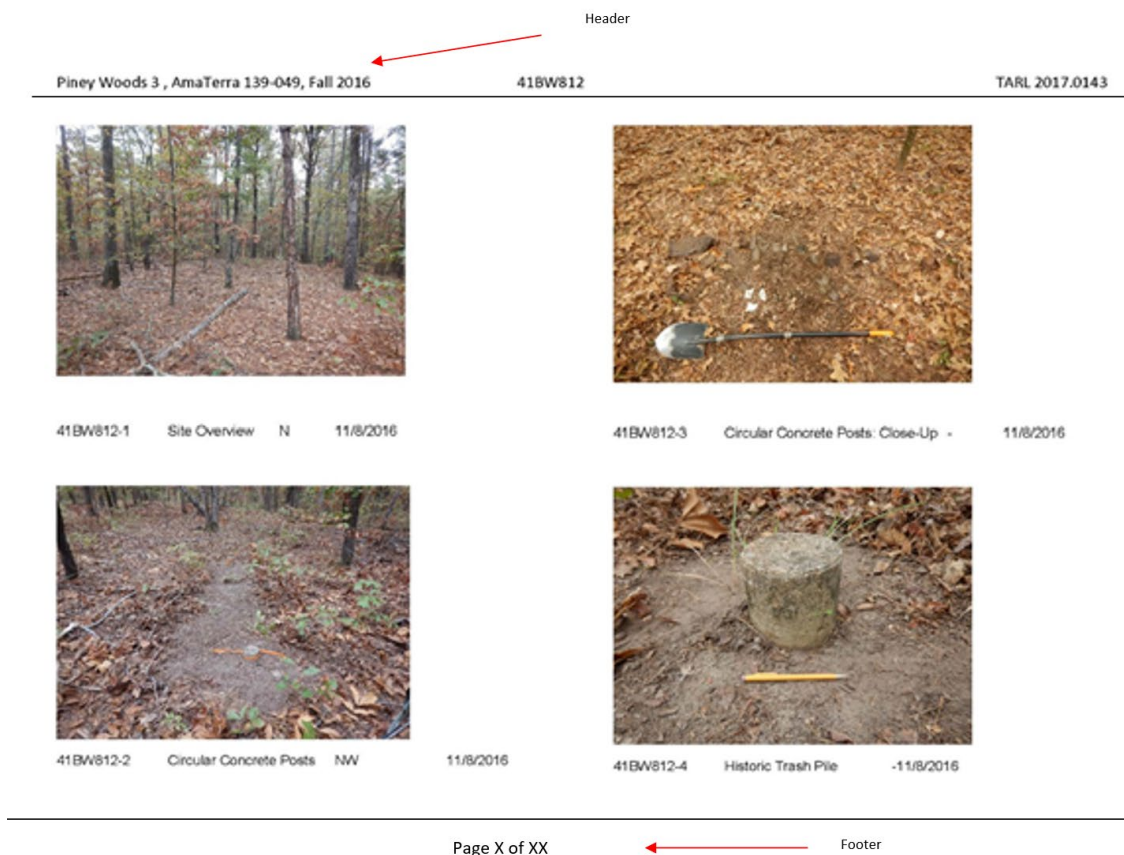

Figure 4. Example of photologs and merged photos
- 3) Photos should be no smaller than 3.5x4.67 inches in size and should be printed at no lower than 600 dpi resolution. Two (portrait) or four (landscape) photos may be printed on one 8.5x11 inch acid-free photographic page. This hard copy is our backup if the digital files are corrupted. Do not submit thumbnail size pictures as the only hard copy version of the prints. Thumbnails may be submitted as additional information and should be labeled with the site and unique print number information. Unlabeled thumbnails will not be accepted. There are no stipulations on how you produce this image file if it can be opened in commonly available program such as Microsoft Word or Adobe Acrobat. Using the header function in Word allows you to place the company/agency, project number and/or name, county and date of work printed on each page of photos (see Figure 4 below). However, image heavy Word documents tend to get cumbersome. Remember that the files may need to be opened and images or descriptions extracted in the future. We recommend Adobe Bridge (including the full version of Acrobat), or other Adobe products to streamline the process of producing images and text descriptions.
The oldest method of print storage in the TARL files was to attach a single image to an envelope with the negative stored inside. The system was replaced by putting the prints into sleeves within folders according to image size and filed by county and site; these were placed in standard filing cabinets by project (Figure 4). When submitting prints, a number sheet should be created for each project and should be completed as follows: